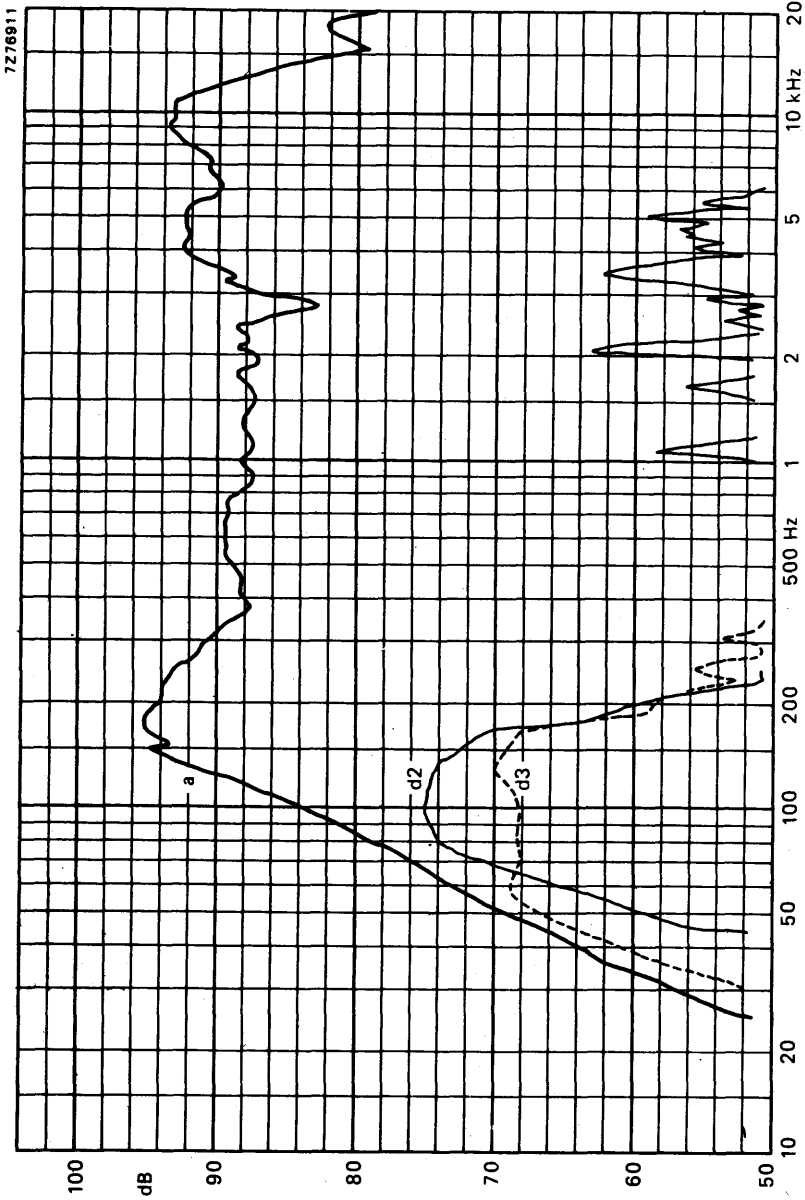

Fig. 2.
**FREQUENCY RESPONSE CURVES** (see Fig. 2)